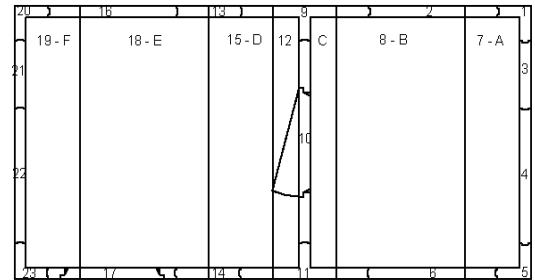

Figure 4b - Ceiling, Floor, and Wall Section Layout
4. Proceed placing wall panels #4, #5, and #6, per the walk-in layout drawing, completely locking the middle camlocks only and half locking the top and bottom camlocks. Ensure that the wall panels are properly aligned to each other and the floor. Lock the remaining camlocks, securing the wall panels to each other first, then to the floor panels (Refer to Figure 4b).
6. Special attention must be given to door panel assembly #10 as it is a partition door section (Refer to Figure 4b). **Be sure the door section is leveled front to back, vertically, and side to side.** Check to ensure the frame opening is square to the door and the door is flush at the top and bottom on the latch side. **Note: The door may not seal or operate correctly if the frame is not level and square.**